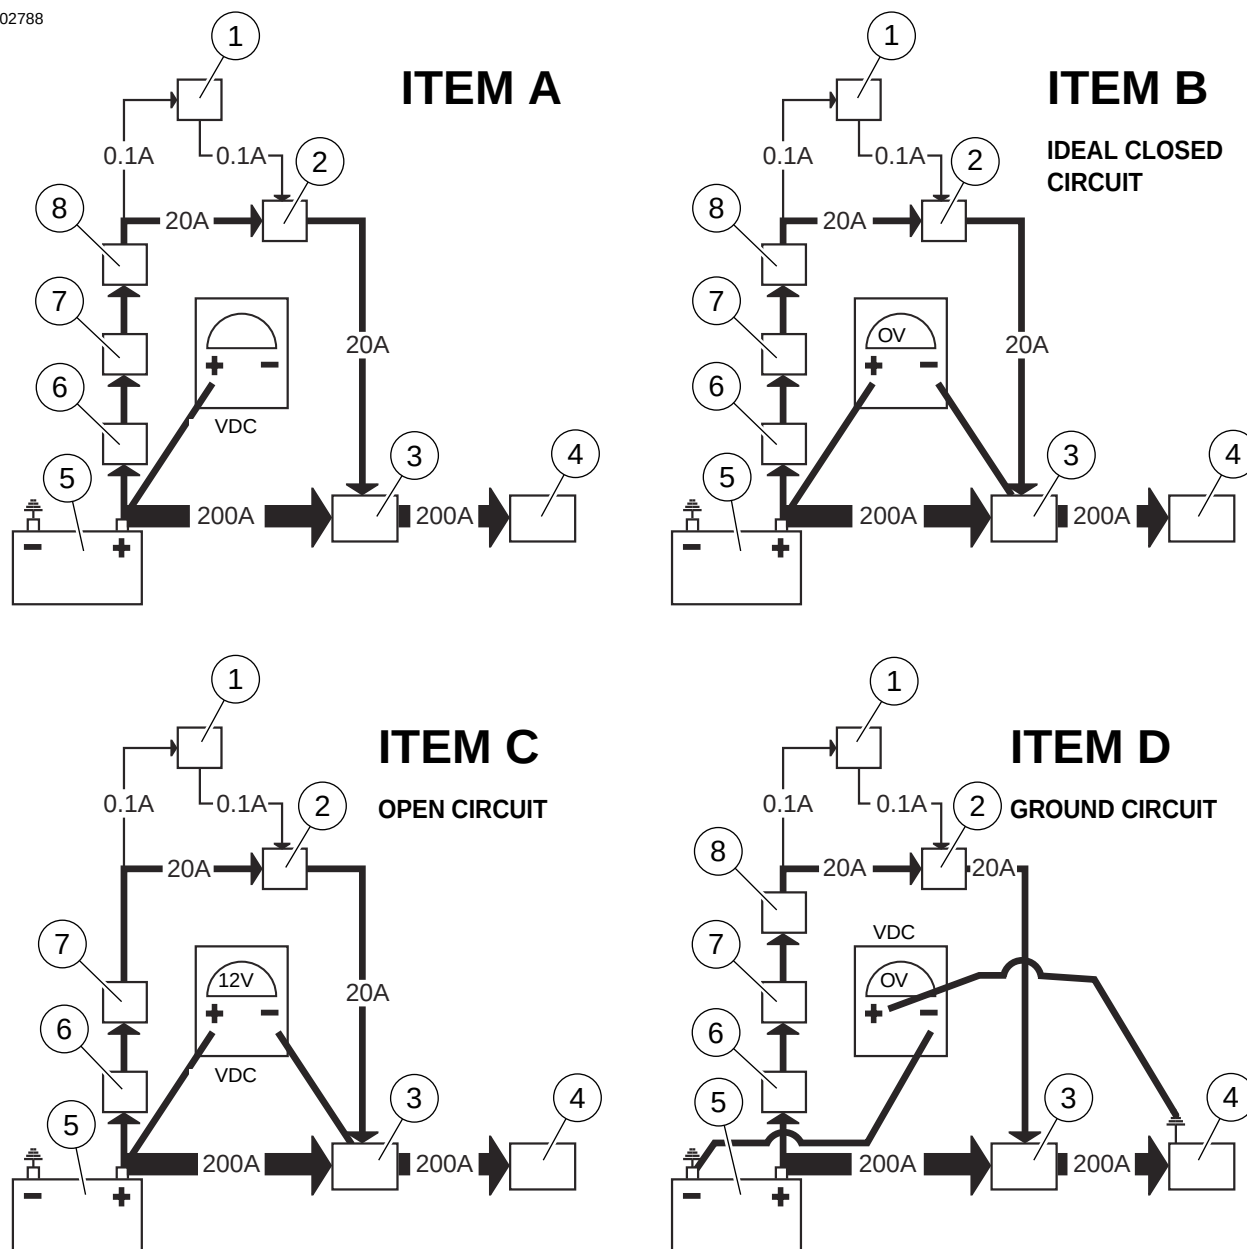

Figure 1-3. Typical Circuitry. Refer to wiring diagrams for more information.
1. See ITEM A in Figure 1-3. Attach your red meter lead to the most positive part of the circuit, which in this case would be the positive post of the battery (5).
2. See ITEM B in Figure 1-3. Attach the black meter lead to the final destination or component in the circuit (solenoid terminal from relay).
4. See ITEM C in Figure 1-3. An open circuit should read 12 volts, displaying all the voltage dropped, and the entire difference in potential displayed on the meter.
6. See ITEM D in Figure 1-3. The negative or ground circuit can be checked as well.